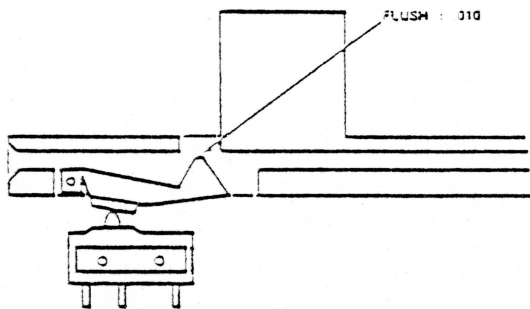

FIGURE 13. WRITE PROTECT SWITCH ADJUSTMENT
- a. Adjust the switch so that the actuator will just transfer the switch when its point is flush  $\pm .010$  within the top of the groove in the guide rail. Reference figure 13.